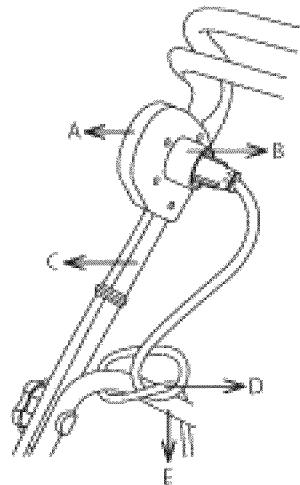

Figure 18
2. To prevent the extension cord from disconnecting during use, tie the female end of the extension cord into a loose knot on the top right side of the middle frame before connecting to the male plug in the switch housing socket of the snowblower (Fig. 18).